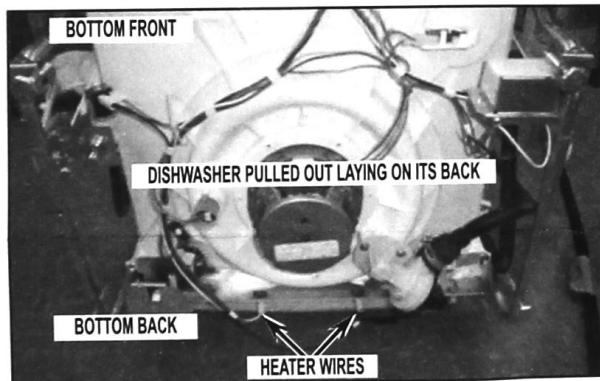

FIGURE 1
7. Remove heater wires from heater by pulling them straight off. See *Figure 1*.